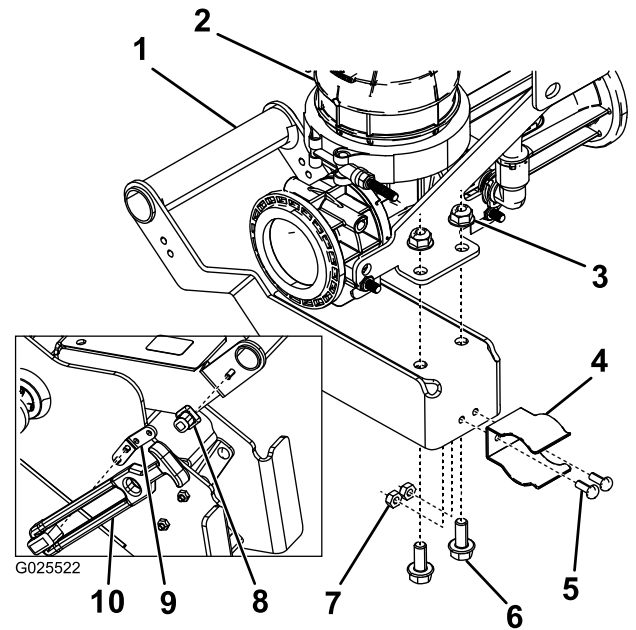

Figure 16
1. Attach the latch post to the eductor handle using a hex-head bolt (Figure 16).
2. Attach the extension bracket to the main support frame using 2 hex-head bolts (Figure 16).
3. Connect the latch handle to the extension bracket (Figure 16).
4. Attach the handle to the eductor using 2 flange-head bolts and flange-head nuts (Figure 16).